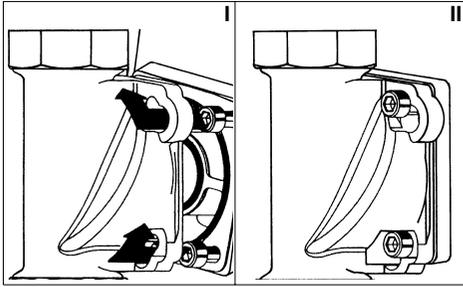

Fig. 4: fitted rotating flange with Bayonet Fixture
- Insert the four flange screws M6x25 in the bayonet drill holes on the fitted rotating flange (see fig. 4 I).
- Turn the Jewel Water Device in a clockwise direction as far as it will go (see fig. 4 II).